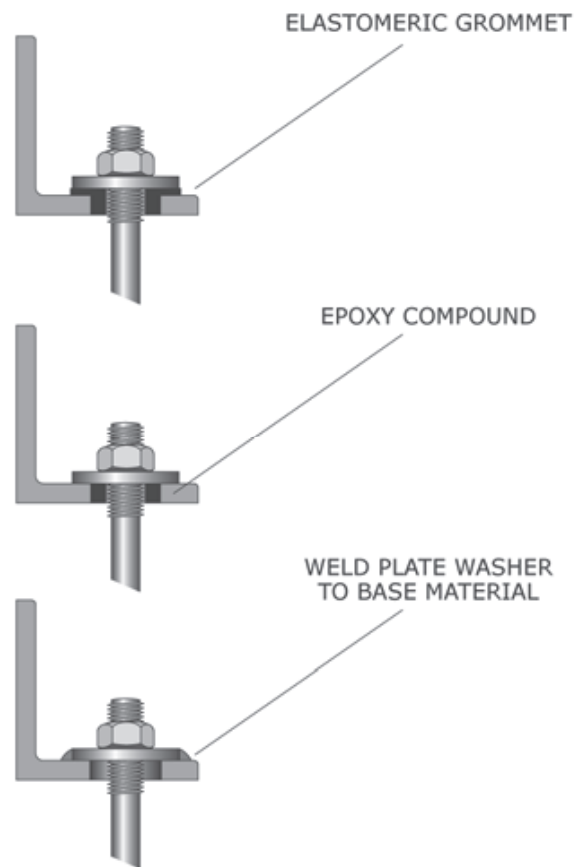

Figure 70: Three options to repair oversized holes.
**New holes cannot be oversized or oval in shape. Repair oversized holes as shown in Figure 70 (page 34), if necessary.**